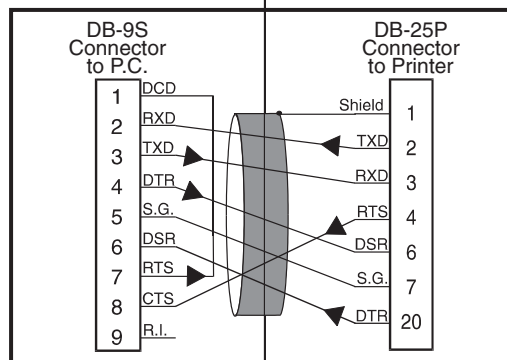

Figure 27. 9-Pin to 25-Pin Cable
- **9-pin to 25-pin cable** - (NULL Modem Cable) must have a 9-pin “D” Type (DB9S) connector on the end that is plugged into the serial port at the computer and a 25-pin “D” Type (DB25P) connector on the other end that is plugged into the connector at the rear of the printer. Figure 27 shows the required cable connections.